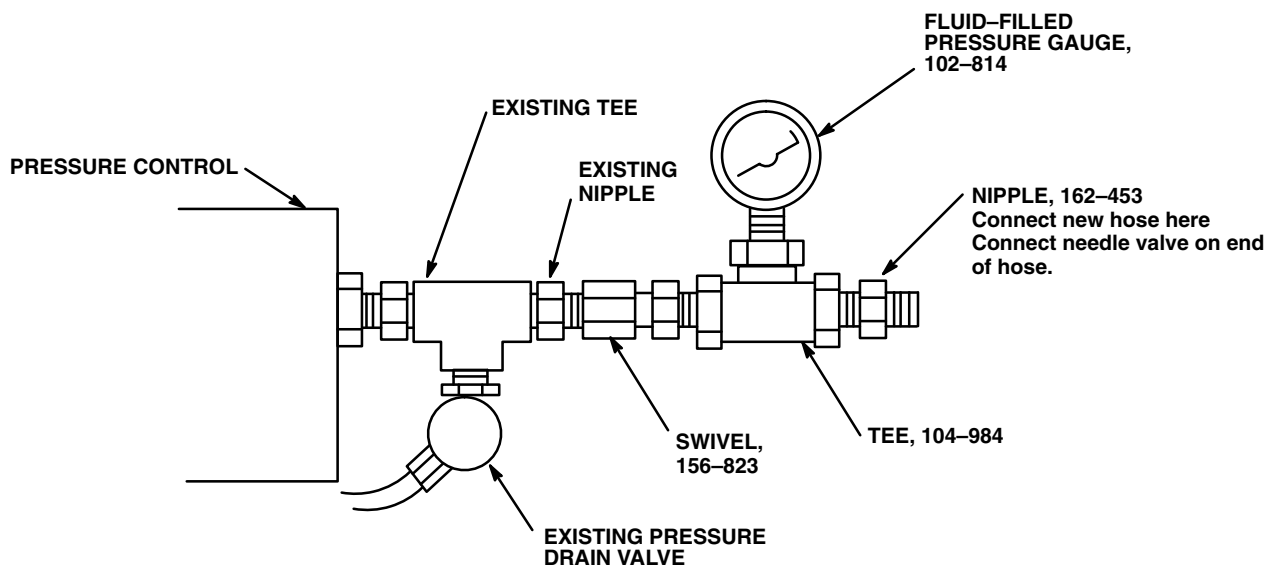

Fig 17
2. Remove the old spray hose. Install the new hardware and hose as shown in Fig 17. On the other end of the hose install the needle valve.